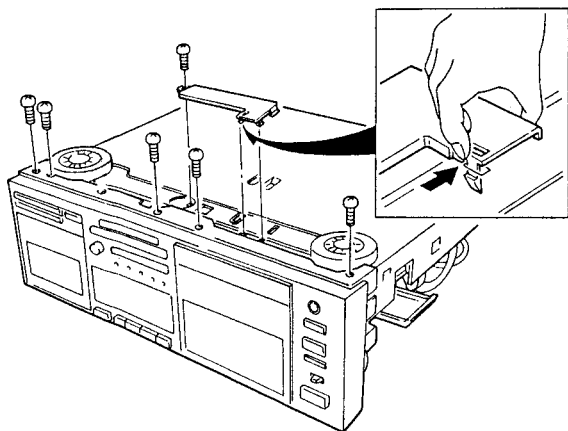

Fig. 2-1
2. Remove four screws at right and left and five screws at lower part fastening the panel stay and the chassis. (Refer to Figs. 2-1 and 2-2)